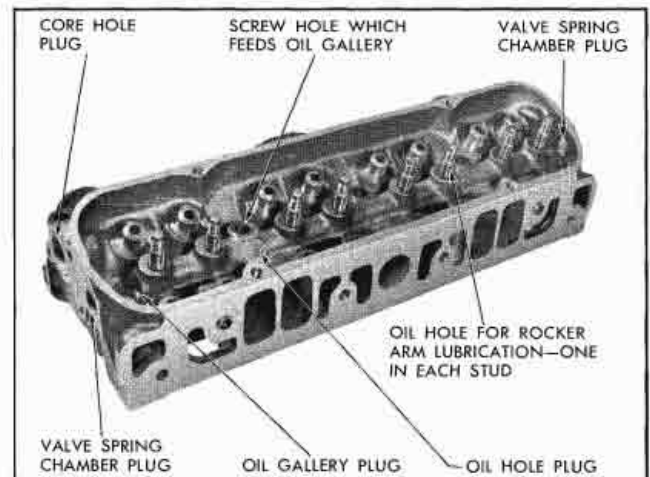

Fig. 6-32 Cylinder Head Passage Identification
7. Remove plugs (Fig. 6-32) from ends of cylinder head oil gallery and thoroughly clean out metal deposits and foreign matter from oil gallery (head must be right side up so foreign material will not lodge in or around studs).
16. Replace plugs in ends of oil gallery (Fig. 6-32).
1. Inspect valves and seats to determine condition before cleaning. Also check oil and water passage plugs for evidence of leakage (Fig. 6-32).
c. Check oil passages from oil gallery through rocker arm studs. A simple test can be made using a rubber hose and smoke. Block lower end of cylinder head screw hole which feeds oil gallery (Fig. 6-32) and blow smoke in top end of hole through rubber hose. Smoke should come out hole in each stud.